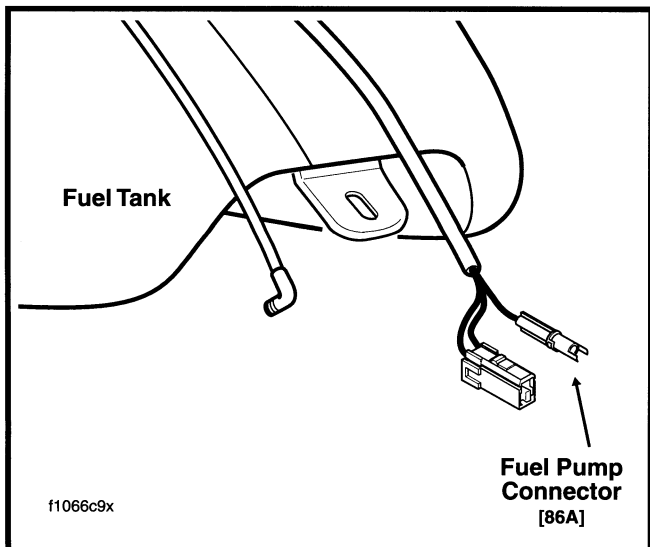

Figure C-27. Fuel Pump Connector (FLHTC/U-I Model Shown)
The fuel pump delivers fuel to the fuel line, to a cavity in the induction module that supplies the fuel injectors and to the pressure regulator, where the system pressure is controlled. Excess fuel pressure is bypassed back to the fuel tank through the return line. The fuel pump wire harness connector [86] is located under the seat behind the fuel tank. See Figure C-27. The fuel pump can be turned on with the Scana-lyzer or by applying battery voltage to the connector [86].
- a. Disconnect the fuel pump connector [86] from the main wiring harness. Locate the black one-place electrical connector in front of the battery. Pull both external latches outward to separate pin and socket halves. See Figure C-27.